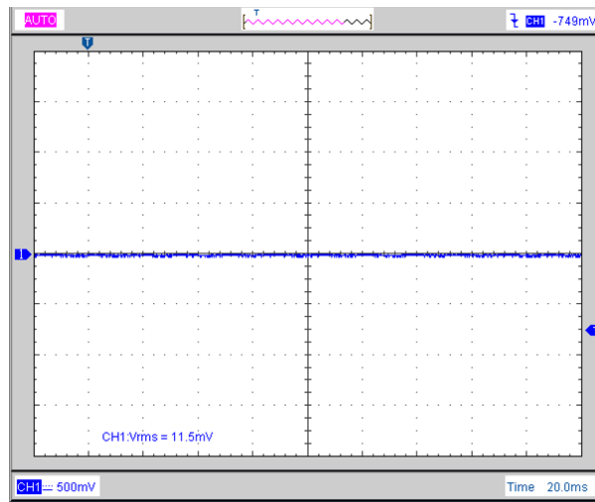

Figure 2. Zero output on BNC connector with CDT-240 not armed.
- 3.3. Perform a test if necessary so that the CDT is not armed. The oscilloscope should measure 0V on the BNC connector we expect to get same as **Figure 2**, adjust P3 in order to set this value.